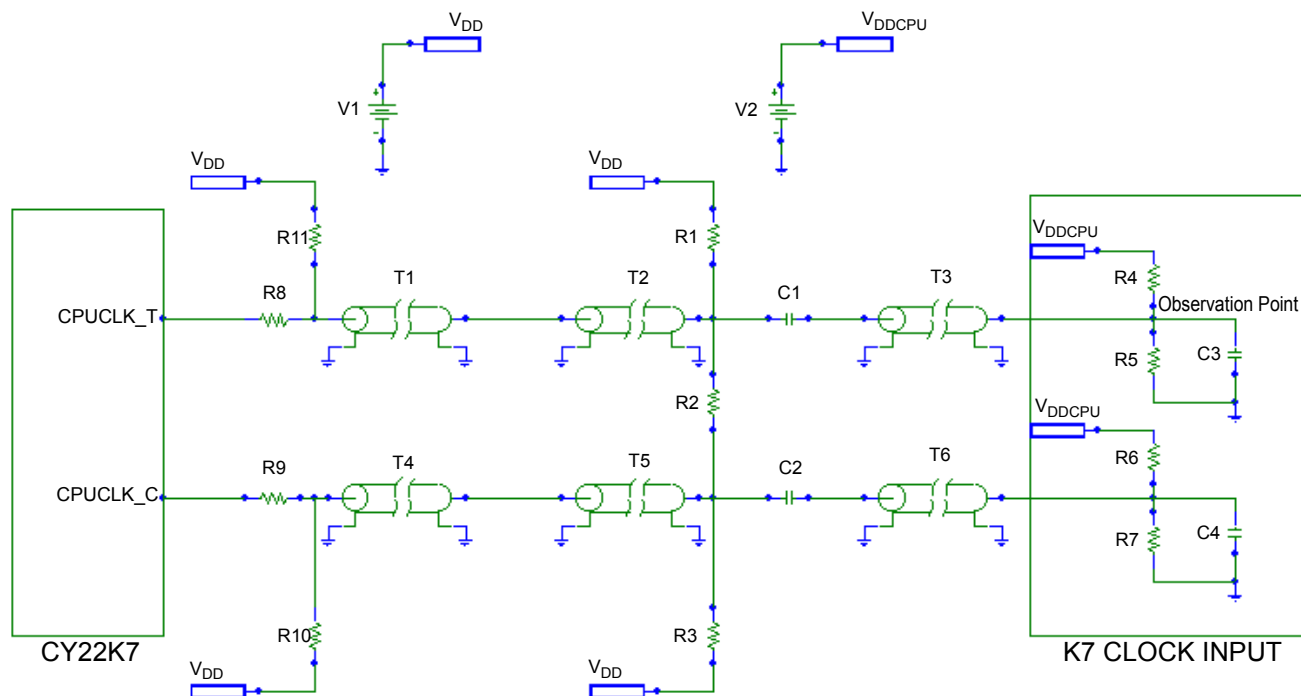

Figure 1. AMD CPU Load Circuit
- All parameters for CPU are measured at observation point shown in Figure 1 on page 10 and parameters for PCI, SDRAM & AGP are measured at observation point shown in Figure 2 on page 11 unless otherwise mentioned.